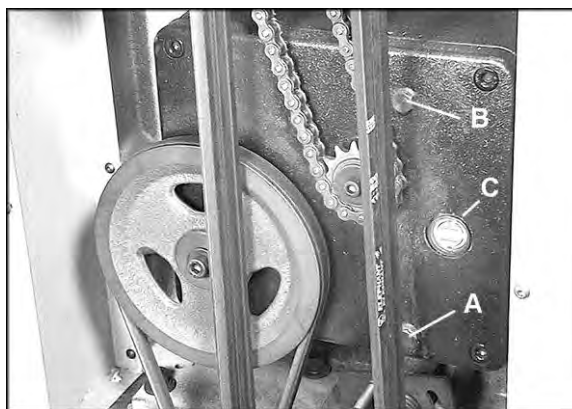

Figure 20
The oil in the main gear box should be changed at least once a year. Remove the drain plug (A, Figure 20) to drain the oil into an appropriate container. Replace the drain plug and fill the gear box with 3.042 liters (0.8 gallon) of 60 to 90 weight gear oil through the fill hole (B). The sight glass (C) should be checked periodically and oil topped off as necessary. Always re-install the screw in the fill hole when finished.